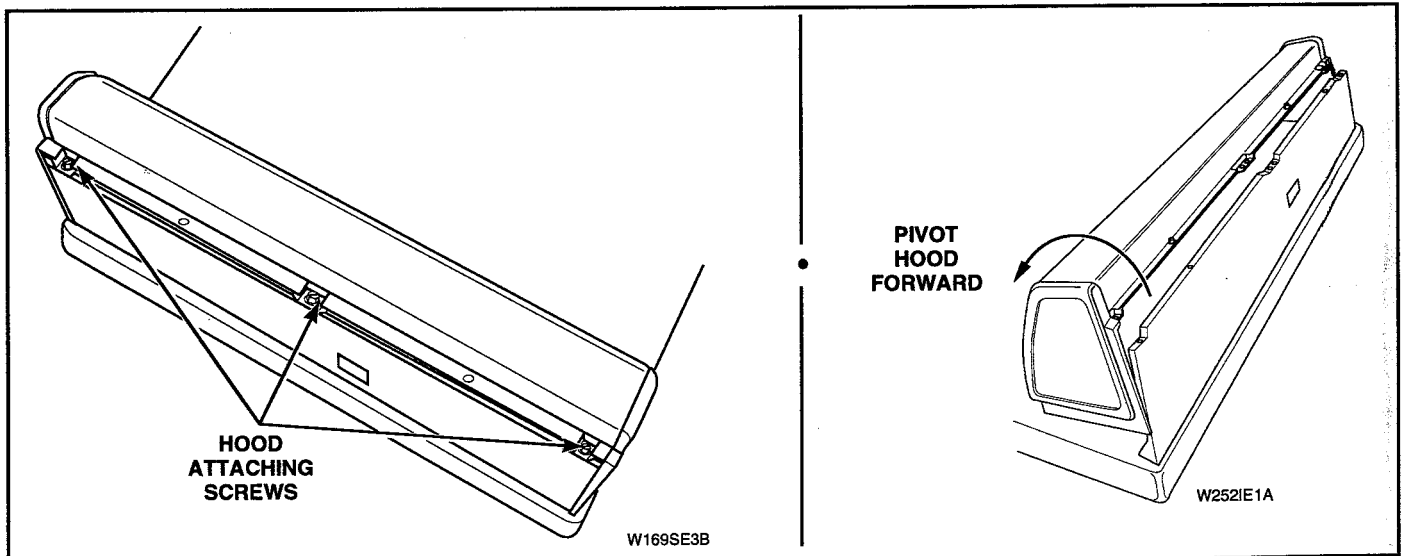

Figure 5-1
1. CONTROL HOOD ASSEMBLY (See Figures 5-1 through 5-3)
- Remove three screws holding rear of hood assembly to control hood rear panel. See Figure 5-1.
- Pivot hood assembly forward on cabinet top. See Figure 5-1.
See Figure 5-1.